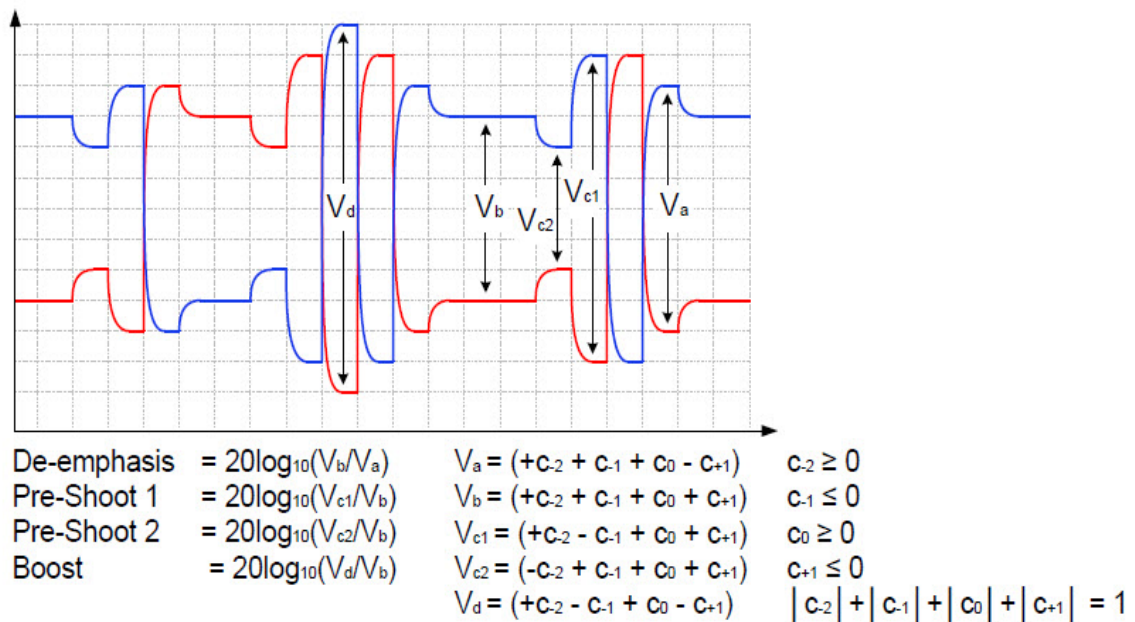

Figure 23 Waveform measurement points for preshoot and de-emphasis
64.0 GT/s PCIe signaling must support the full range of presets given in Table 8-2 (PCIe Base Specification Revision 6.0). Presets are defined in terms of ratios, relating the pre-cursor and post-cursor equalization voltages. The pre-cursor (V_c) is referred to as pre-shoot, while the post-cursor (V_b) is referred to as de-emphasis. This convention permits the specification to retain the existing 2.5 GT/s and 5.0 GT/s definitions for Tx equalization, where only de-emphasis is defined, and it allows preshoot and de-emphasis to be defined such that each is independent of the other. The tolerances in Table 8-1 (PCIe Base Specification Revision 6.0) also apply to 2.5 and 5.0 GT/s de-emphasis. The maximum swing, V_d , is also shown to illustrate that, when both c_{+1} and c_{-1} are nonzero, the swing of V_a does not reach the maximum as defined by V_d . The high frequency nature of PCIe signaling makes measurement of single UI pulse heights impractical. Consequently all amplitude measurements are made with low frequency waveforms as shown in Figure 23.
- 13 Computes their equalization voltages by using Matlab, and then calculates equalization ratios by using the formulae stated in Figure 23 (Figure 8-6 of the spec).